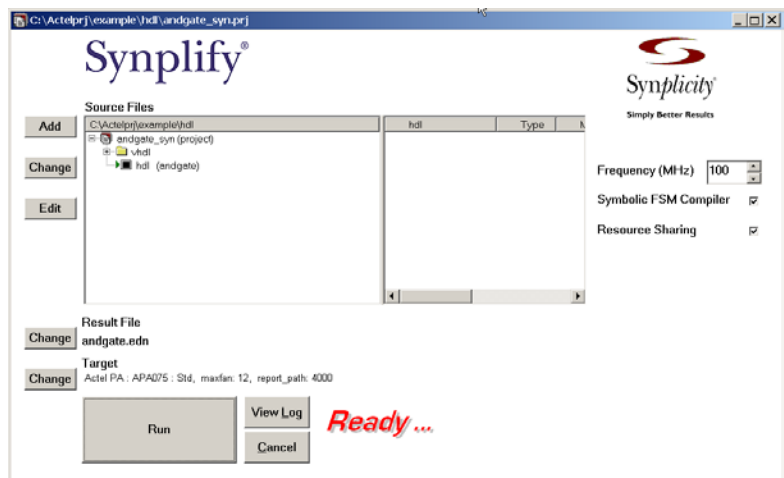

Figure 5-15. Synplify
1. **In the Libero IDE, double-click the Synplify Synthesis icon in the Libero IDE process window or right-click the *andgate* file under the Design Hierarchy tab and select *Synthesize*.** This launches the Synplify synthesis tool with the appropriate design files, as shown in Figure 5-15.